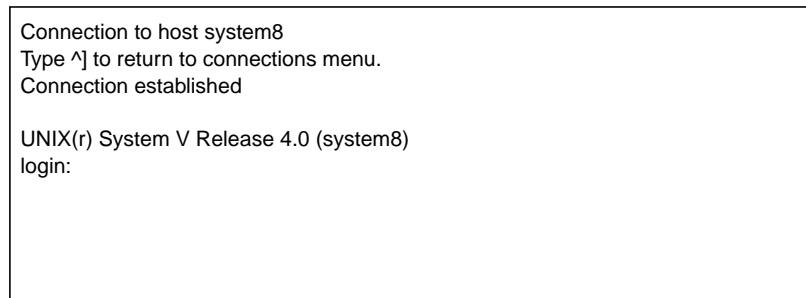

Figure B-10: Login Prompt
5. Get login prompt for the host machine selected, as shown (see Figure B-10).